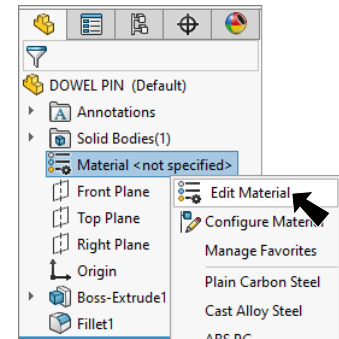

Fig. 7
Step 1. **Right click Material**  in the Feature Manager and click **Edit Material**, Fig. 7.